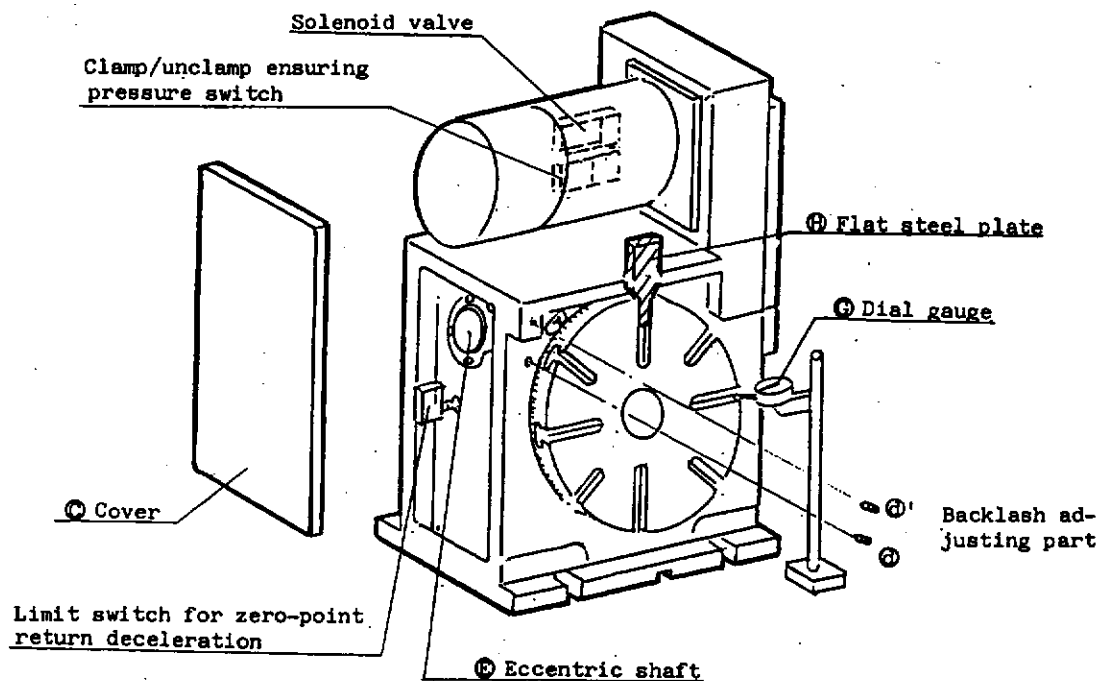

Fig. 5
- 2) Loosen out cap screws for cover (C) and remove the cover.
- 3) Loosen four cap bolts which tighten the eccentric shaft (E).
- 4) Take out the tapered screw plugs (d) and (d') of Fig.5 and the backlash adjusting bolts (h) and (g) will be provided therein.
- 5) Here, reset the dial guage (G) as shown in Fig.5, loosen the bolt (h) and tighten the bolt (g) clockwise, then the eccentric shaft will turn in direction of arrow. Thus, the backlash between the worm wheel and the worm screw will get near to 0 (zero). Adjust the backlash to 10 ~ 15 microns by using the bolts (h) and (g) watching the deflection of the dial guage (G) while shaking the outer periphery of CNC rotary table, then securely lock them again.
- 6) After completion of above adjustment, tighten the plugs (d) and (d') and bolts for eccentric shaft (E).